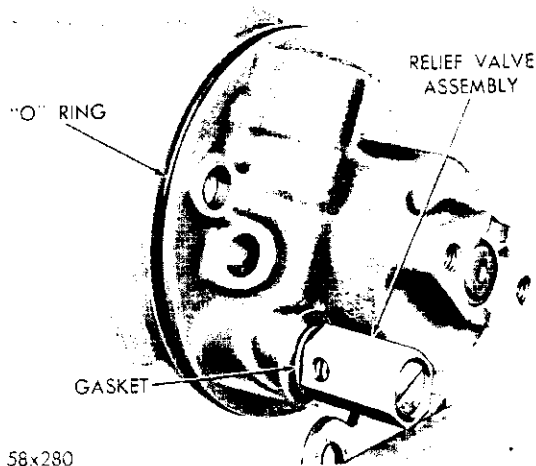
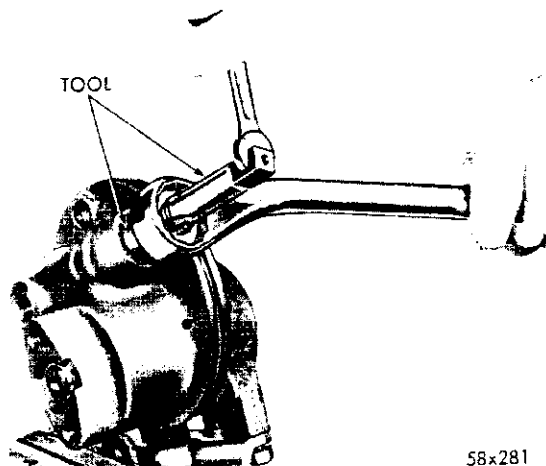

Fig. 58—Removing the Relief Valve
Fig. 59—Removing the Flow Control Valve Plug
(6) Remove the relief valve assembly and the gasket (Fig. 58). The relief valve is serviced only as an assembly.
(7) Remove the flow control valve plug snap ring with pliers, Tool C-3229.
(8) Remove the flow control valve plug with Tool C-3655 (Fig. 59) by threading the tap securely into the plug. Place the spacer and nut over the tap. Hold the tap and tighten the nut to remove the plug.